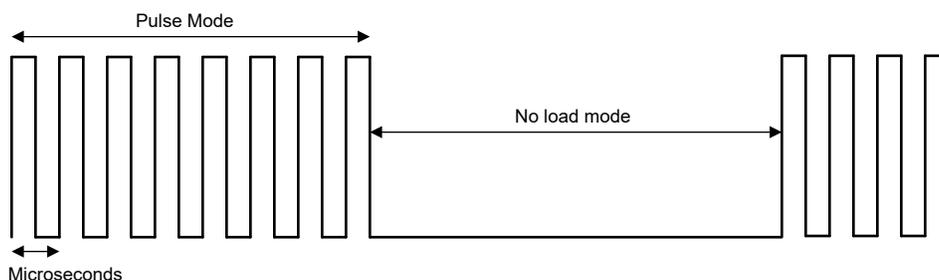

Figure 1-2. Driving Waveform for Pulse Mode
For the pulsers in an ultrasound smart probe, high- and low-voltage power supplies are required to transmit the desired voltage pulse for the transducer to generate an ultrasound signal. Generally, there are two modes, Brightness (B) mode and Continuous (CW) mode, which requires bipolar high voltage (+75 V and -75 V) and low voltage (± 2.5 V to ± 15 V), respectively. In the B mode, the whole working period consists of a pulse mode period and a no load mode period as shown in Figure 1-2. During the former period, the high-voltage pulses are transmitted for a short time (several microseconds) with a large current (about 1 A). To meet the power requirement, a switched-mode power supply (SMPS) is applied in most ultrasound systems. However, the switching frequency (F_{sw}) of SMPS is often fixed by a resistor which causes the power loss during the no-load period. If simply shutting down the SMPS during the no-load period, the device cannot wake up in time before the next pulse. Thus, slowing down the F_{sw} is a good way to reduce the power consumption. If synchronizing the frequency with an external clock, the change of frequency must be within +25% and -30% of the desired F_{sw} , which cannot save the power significantly. In this application note, the external GPIO is input to program the switching frequency to 100 kHz at standby mode while 250 kHz at normal operation, achieving the lowest no-load power consumption at the maximum voltage output. This approach can also scale to other applications that need SMPS with low power dissipation.